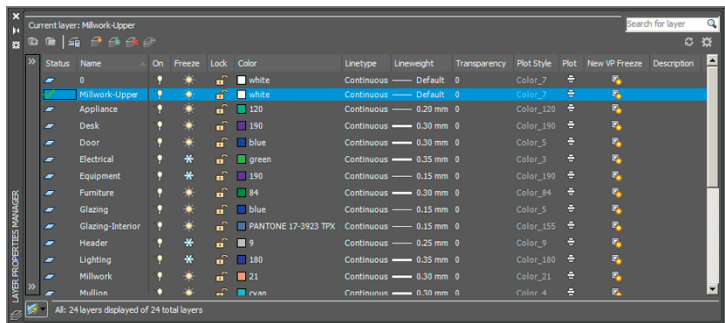

FIGURE 6.27 Maximizing the columns in the Layer Properties Manager makes them easier to read.
- 5. Right-click any one of the column headers to access a context menu. Choose Maximize All Columns from this menu. Figure 6.27 shows the result: The columns are all readable.